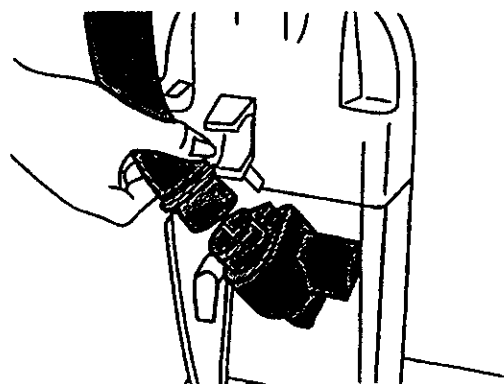

Fig. 11
1. Twist hose connector to unlock from duct assembly and remove (Fig. 11).